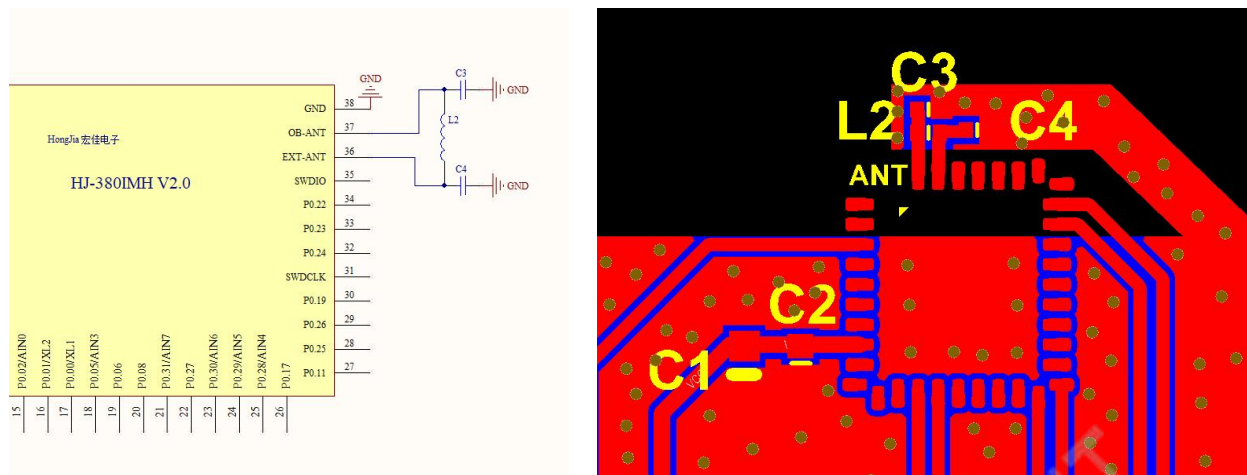

Figure 3.2: Connected through the PI circuit
② If there is sufficient space, an additional PI can be used for re-adjustment (connecting PIN36 through a  $\pi$ -type filter circuit to PIN37). The transmission distance will be better. The wiring method is shown in Figure 3.2.